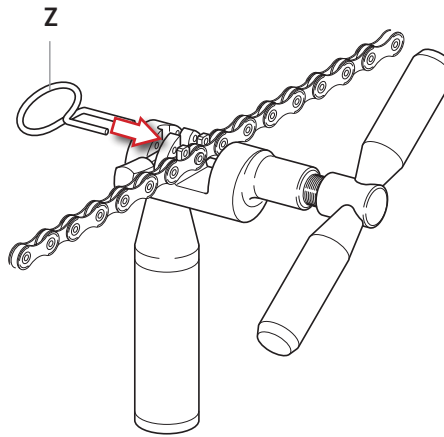

Fig.19
- Insert the link to close into the provided seats (Fig. 19).
- Lock the link by means of the special locking device (Z - Fig. 19).